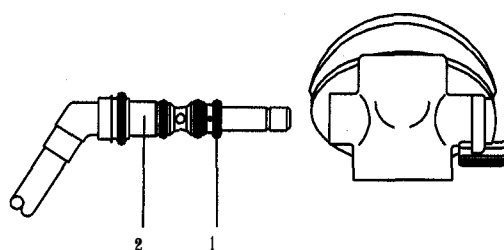

Figure 8
- Carefully insert banjo (2) (Figure 8) into bore of demand regulator body and align through bore in balanced piston block i.e., reverse Figure 8.